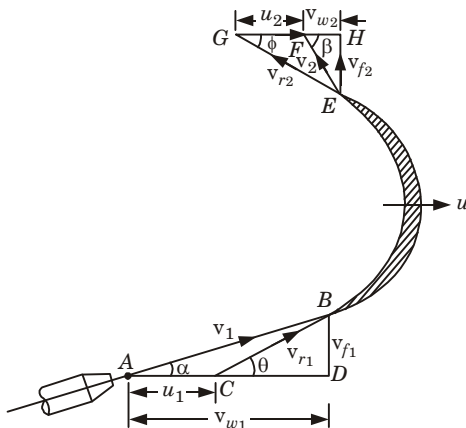

Fig. 4.2.4. Jet striking a moving curved vane at one of the tips.
1. As shown in Fig. 4.2.4, at inlet of the plate following terms are represented as,